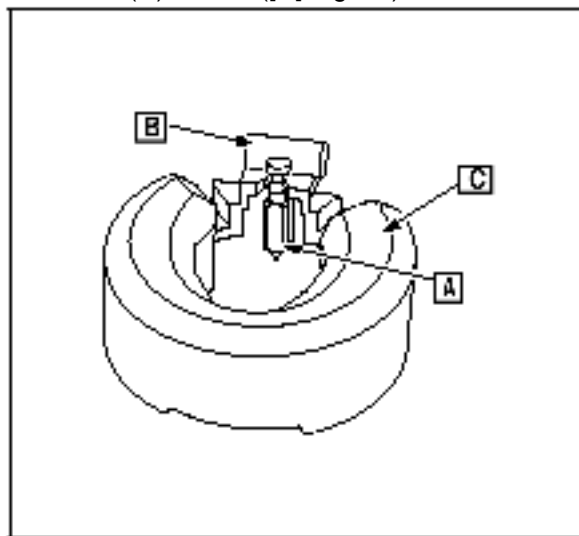

Fig. 65
Slide fuel needle valve assembly (A) on to tab (B) of float ([C] Fig. 65).